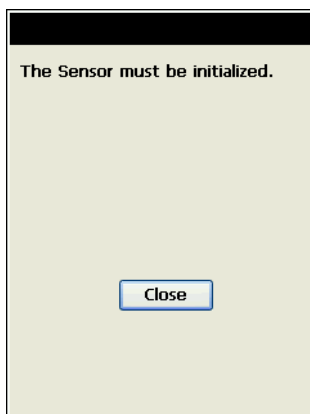

Figure A-8. Initialize Sensor after Resection
11. After the resection (Figure A-8), initialize the sensor. See “Sensor Initialization” on page 8-16 for details.